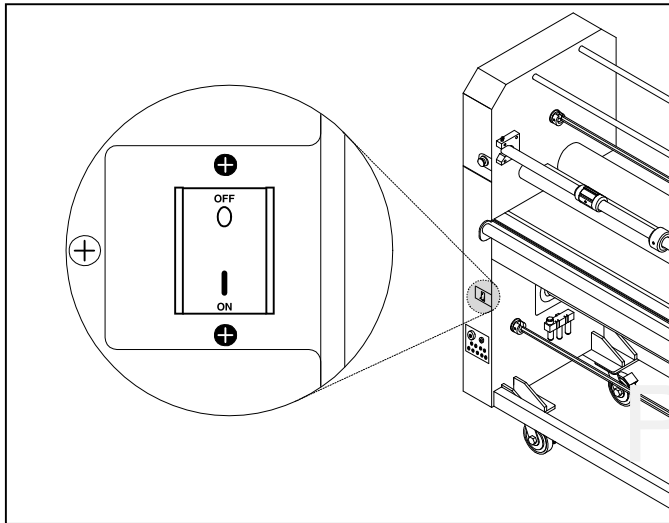

Fig. 6
**A. POWER ON/ OFF:** (Figure 6)